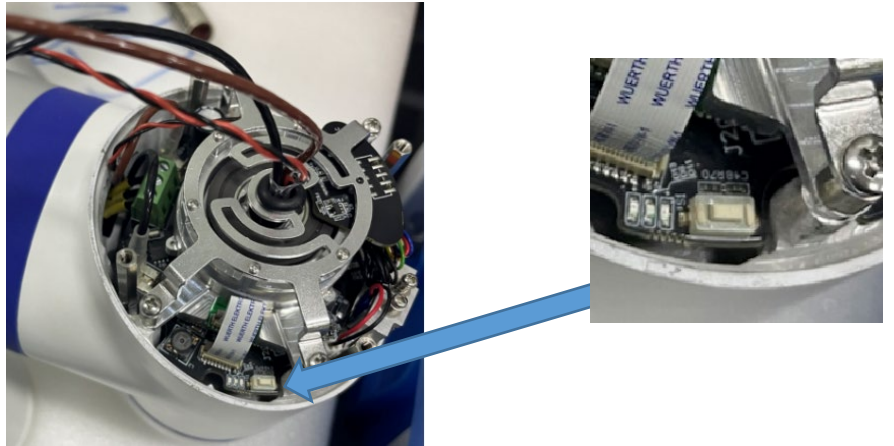

Figure 3-6 White button
- Click the white button as shown in Figure 3-6 lightly, then the flashing light will flash. The times the light flashes are equal to the joint number.